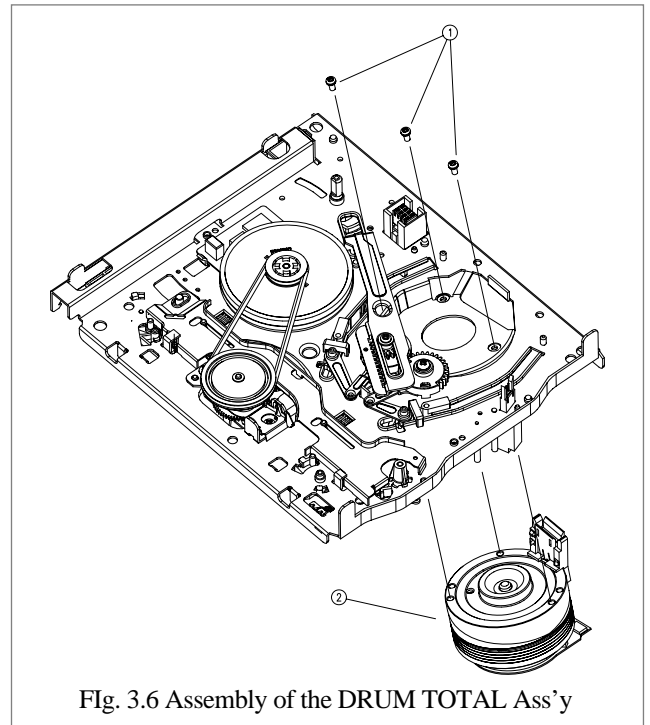

Fig. 3.6 Assembly of the DRUM TOTAL Ass'y
3. Deassembly of DRUM Ass'y (Fig. 3.6)
- a. Turn over the DECK MECHANISM and holding the DRUM TOTAL Ass'y ② with hands, remove the 3 screw holding the drum total assembly with mainbase.